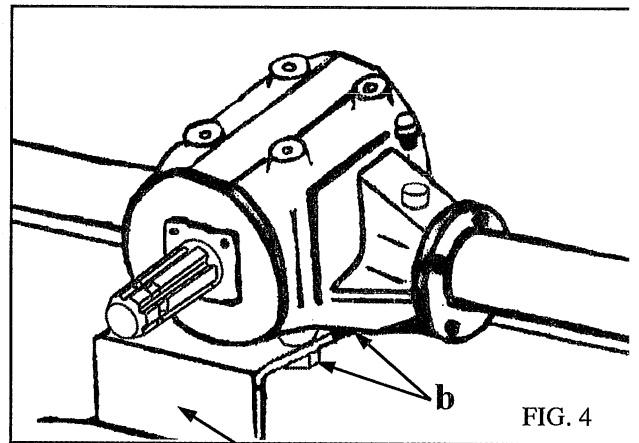

FIG. 4
- Loosen all four nuts "b" on the gearbox slide plate (fig. 4);